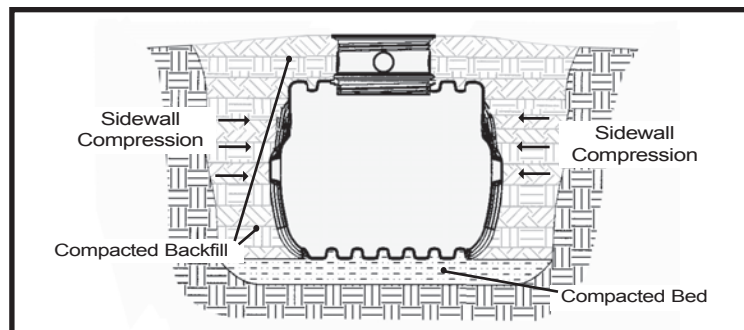

**FIG.3 Plumbing Install**
- Install the inlet and outlet tees, as required. (Fig. 3) Plumbing tees shall be located as close to the entrance point of the tank as possible (just inside the manway opening). Plumbing tees and gas-baffles are factory provided for Indiana tanks.
- Install the required Roth threaded Septic Access Riser System (STAR™), provided separately. (Fig. 3) See reverse for directions for sealing the riser system.
- Using the corner lifting holes, lower the tank into the excavation. Level the tank, and verify the outlet is lower than the inlet. Install remaining inlet and outlet plumbing. (Fig. 3)